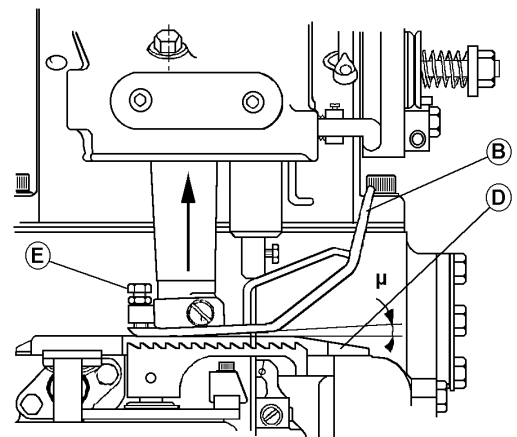

Fig: 10
Examine Fig :10. The presser foot (B) should not be parallel with the throat plate (D), but there must be a small gap ( $\mu$ ) at the infeed end of the presser foot (B).